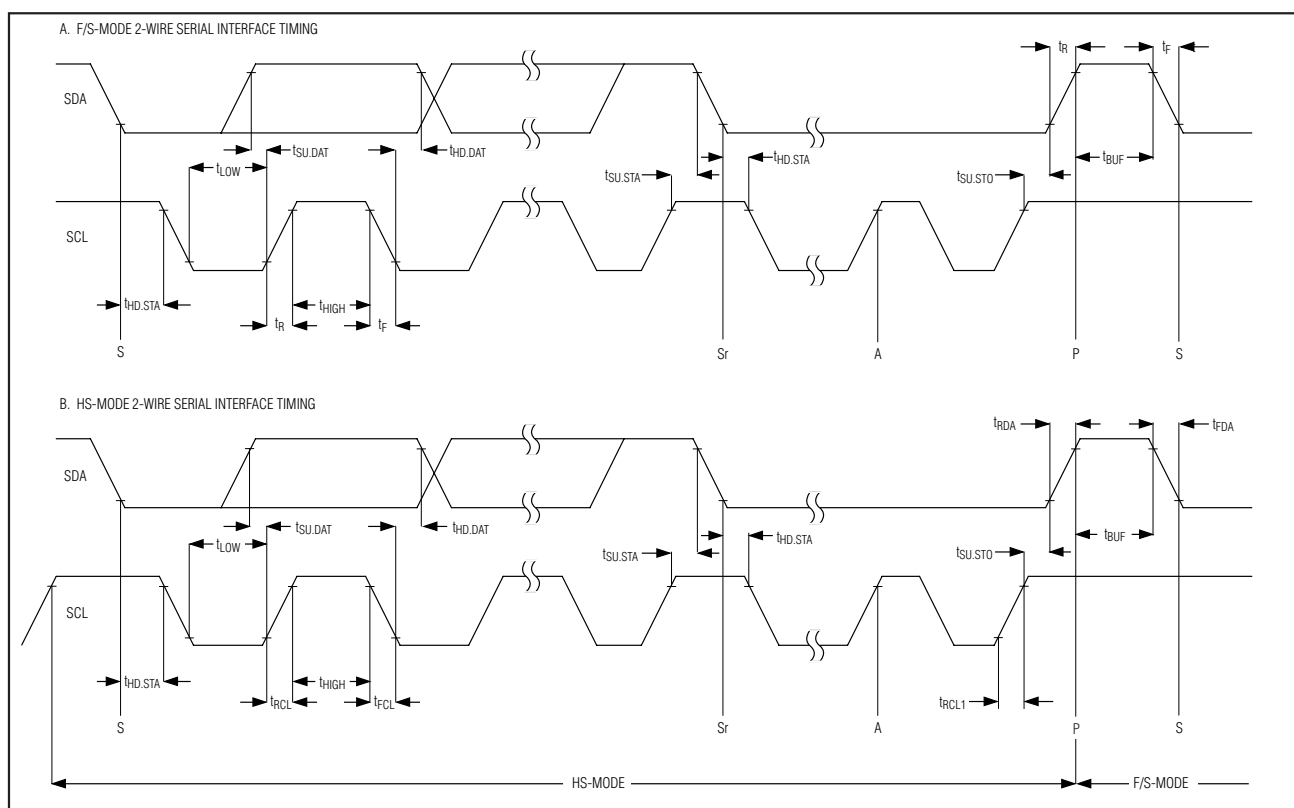

Figure 1. 2-Wire Serial Interface Timing
### TIMING CHARACTERISTICS (Figure 1)
### TIMING CHARACTERISTICS (Figure 1) (continued)
**Note 10:** A master device must provide a data hold time for SDA (referred to  $V_{IL}$  of SCL) in order to bridge the undefined region of SCL's falling edge (see Figure 1).
At power-up, the MAX1236-MAX1239 bus timing is set for fast-mode (F/S-mode), which allows conversion rates up to 22.2ksps. The MAX1236-MAX1239 must operate in high-speed mode (HS-mode) to achieve conversion rates up to 94.4ksps. Figure 1 shows the bus timing for the MAX1236-MAX1239's 2-wire interface.